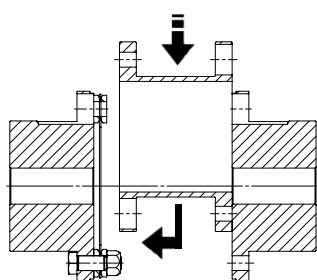

Figure 3
4.1.5. Install the spacer (3) between the hubs and connect it to the already assembled disc (2) with screws and nuts (4), in the direction shown on the fig. 3 (in case of long spacer, it is essential to support the spacer in position from the beginning to the end of the assembly). Tighten to torque T mentioned while holding the screws still and turning the nuts. See tabulation 1 for tightening torque (T Nm) and socket size (s mm).